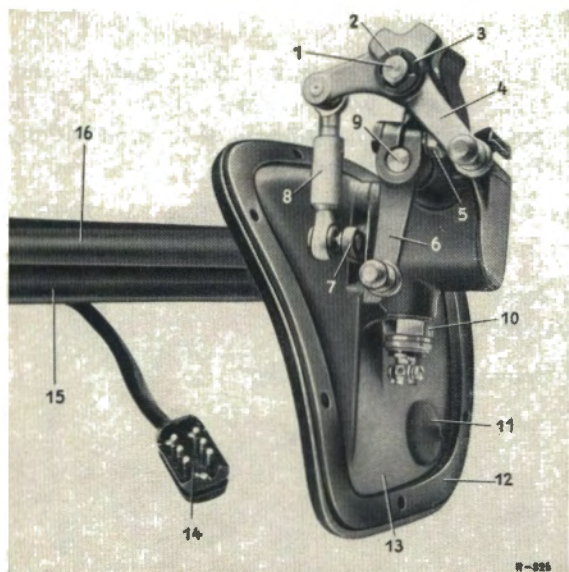

Fig. 26-12/3
5. Loosen the hexagon screw (32) in the selector lever (31), push the selector lever (6) with the selector shaft (9) to the right toward the center of the car, and remove the selector lever (31) upward (Fig. 26-12/3).